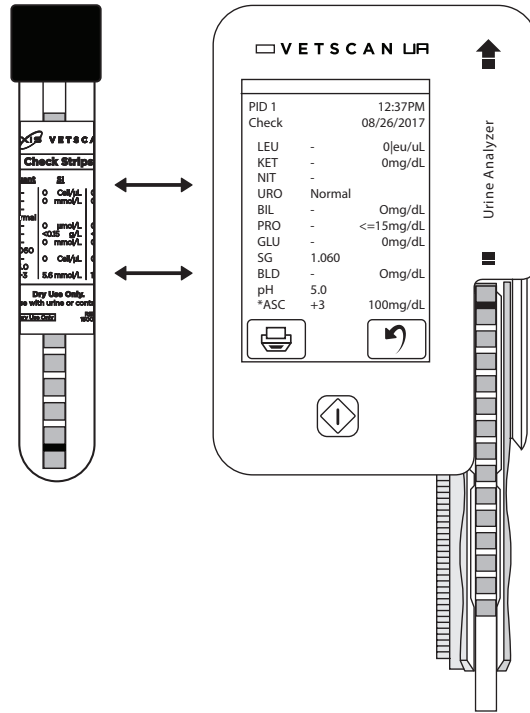

Fig. 22 Compare Check Strip results with Tube Label
- When testing is completed, compare the onscreen results with those on the label on the Check Strip tube. (Fig. 22) If the results match, the analyzer is fit for analyzing samples. If the results do not match, run the second Check Strip (provided) to be sure the first strip is not damaged.